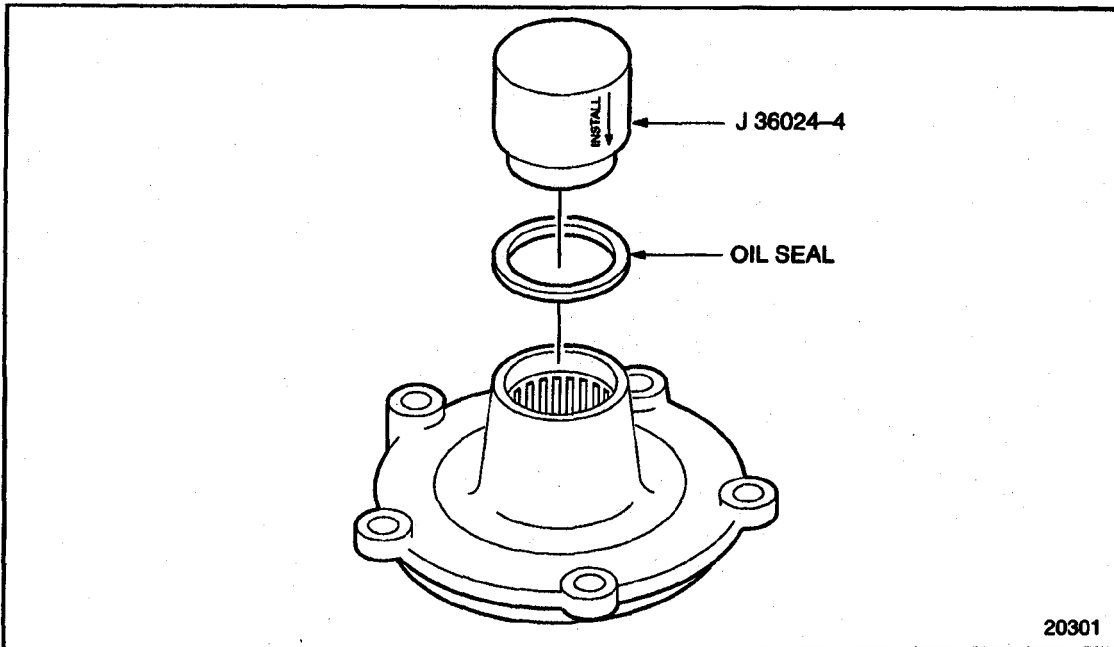

Figure 1-416 Accessory Drive Oil Seal Installation
6. Install the accessory drive oil seal to the accessory drive housing using the seal installer, J 36024-4 part of J 36024-C, and a plastic hammer or fiber mallet. The oil seal must be installed flush to 0.25 mm (0.010 in.) below the face of the housing. See Figure 1-416.